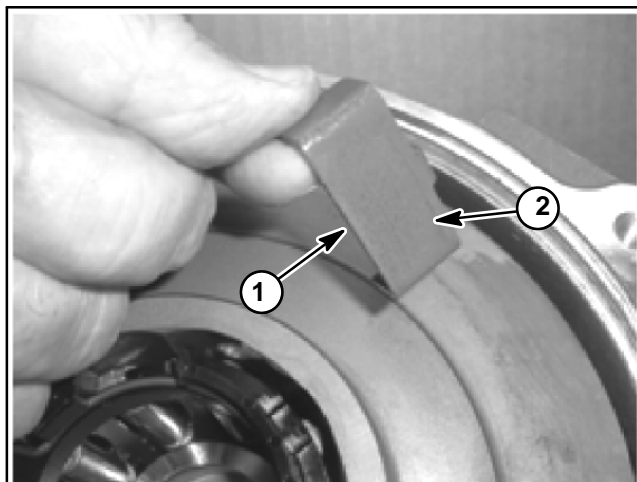

Figure 15
7. Remove the thrust bearing from the cover plate and inspect for wear (Fig. 15). Replace the thrust bearing if the red coating is worn completely off the bearing surface. The thrust bearing is used to set the backlash of the ring gear and pinion (see Front Differential Assembly in this section for backlash adjustment procedure).